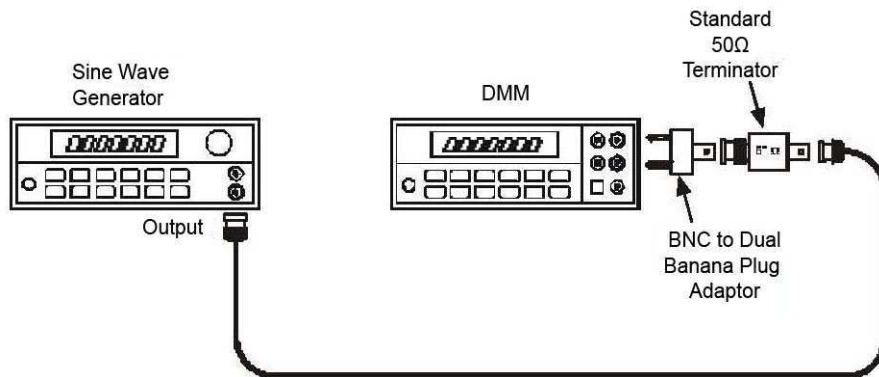

Figure 14, $\div 10$ Attenuator Accuracy
- Connect the terminated output cable from the sine wave generator to the DMM using the BNC to Banana Plug adapter. Refer to Figure 14.